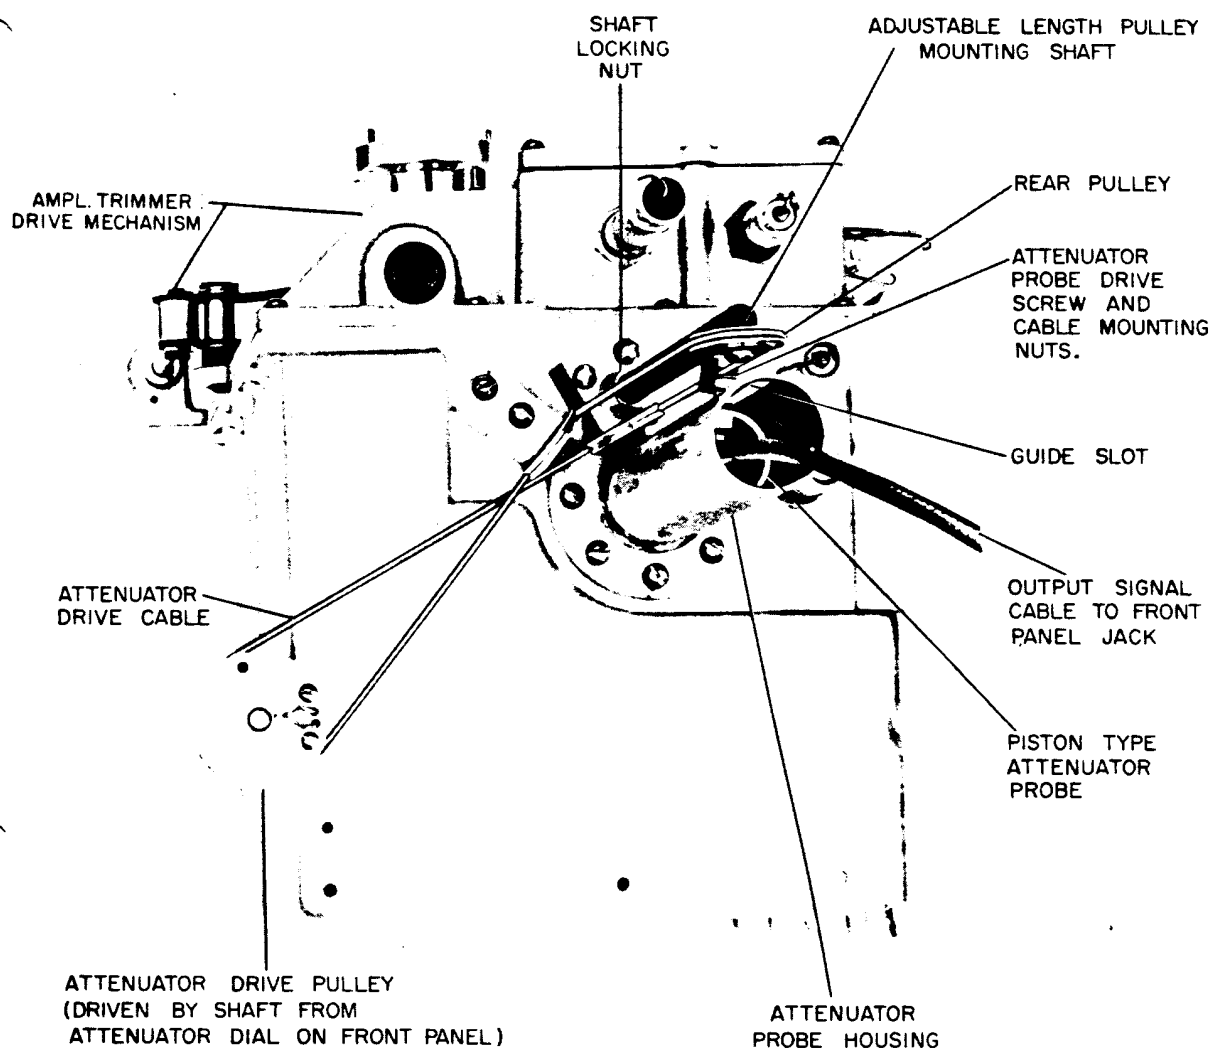

FIGURE 4-7. R-F GENERATOR ASSEMBLY REAR VIEW, SHOWING OUTPUT ATTENUATOR DRIVE SYSTEM
- 2) Remove the nut and washers that hold the drive cable in the probe drive screw (Figure 4-7) in the top of the attenuator probe.